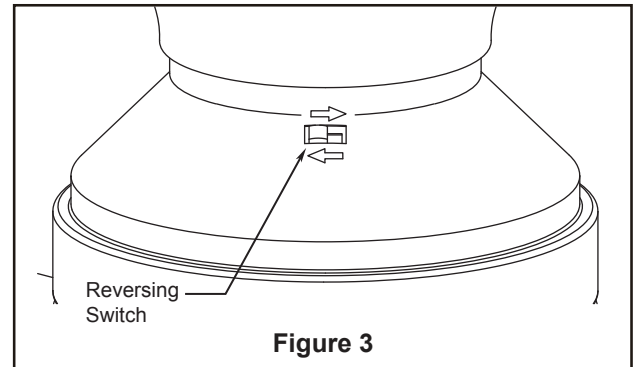

Figure 3
2. Using the outlet box screws provided with the outlet box, securely attach the ceiling bracket to the outlet box as shown. (Figure 3)
3. Please remove the flexible bushing prior to pushing the canopy trim ring up. Push the canopy trim ring up to conceal the screws, such that the mounting tabs seat into the dimpled grooves in the ceiling bracket midway between the screws. (Figure 3)
- 3. Remove one of the three screws in the light kit. Retain the screw for later and slightly loosen the remaining two screws. (Figure 3)
3. If airflow is desired in the opposite direction, turn the fan off and wait for the blades to stop turning. Then slide the reverse switch on top of motor assembly to the opposite position and turn fan on again. (Figure 3)